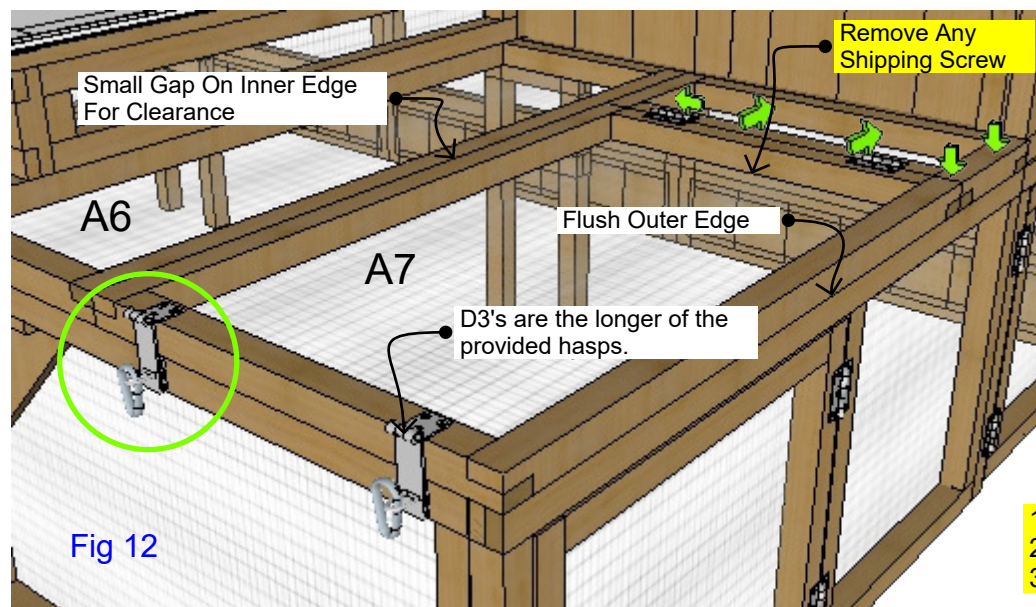

Fig 12
12.1 Attach Hinged Run Tops - Using **Fig 12** as guidance, attach the back part of panel **A7** with **E1** screws as indicated making sure outer edge is flush with the coop side, even over just a hair to where there is a small gap between **A7** door and **A6** inner panel. Repeat procedure for the other side (**A4** Panel) just thinking in terms of it being mirrored from what is illustrated in **Fig 12**.